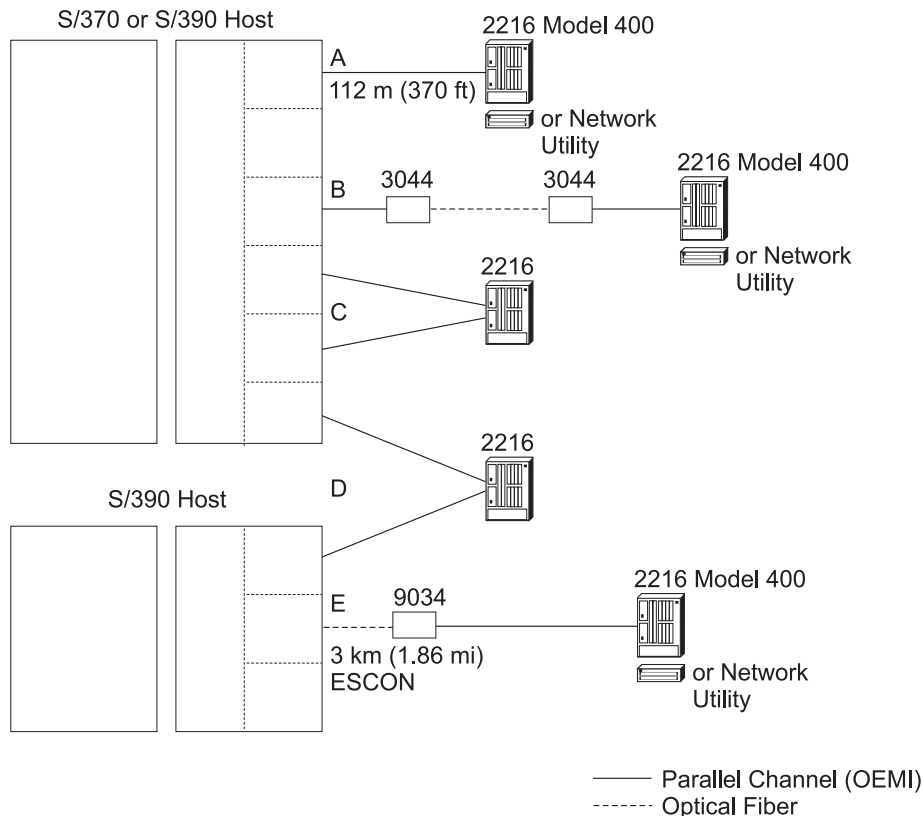

Figure 5-3. 2216 Model 400 and Network Utility Parallel Channel Attachment Examples
**Single Attachment between an S/370 or S/390 Processor and a 2216 Model 400 or Network Utility:** In Figure 5-3, connection A consists of a 2216 Model 400 or Network Utility with one Parallel Channel Adapter and an S/370 or S/390 host. The protocol is based on the IBM 3088 Channel-to-Channel (CTC) protocol. The router appears to host systems as an IBM 3088 Multisystem Channel Communications Unit. The maximum distance between the host and the router is 122m (400 ft). With multiple parallel channel adapters, the distance will be less. For more information, see Table 5-5 on page 5-30.